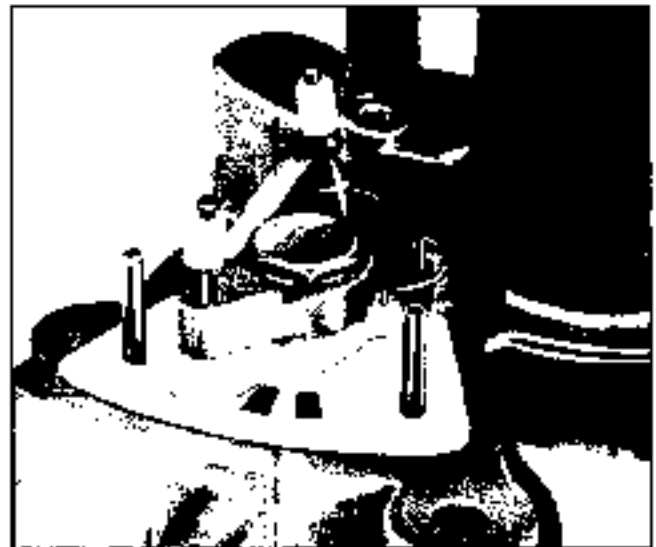

Fig. 4-23 Installing Distributor Arm
5. Install distributor valve bushing, washer, distributor arm assembly, washer and secure with screw (Fig. 4-23). Tighten screw to 12 lb. in.